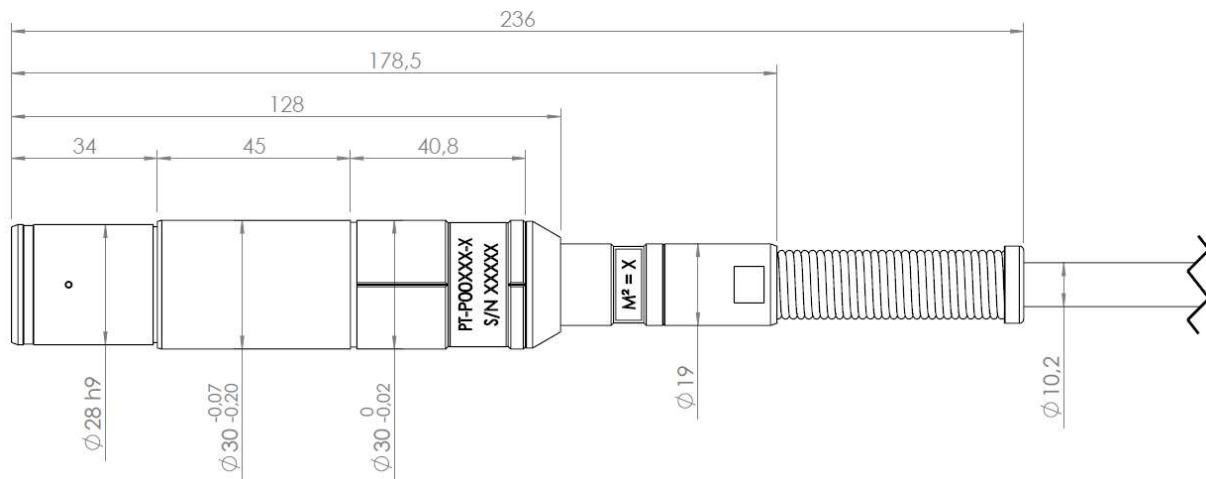

Figure 11.2.1: Outline Drawing – RIC Beam Delivery System
(1) Refer to table 3.1.1 for fibre type definitions
(2) Measured with respect to the reference surface Ø30mm +0/-0.02mm defined in figure 11.2.1